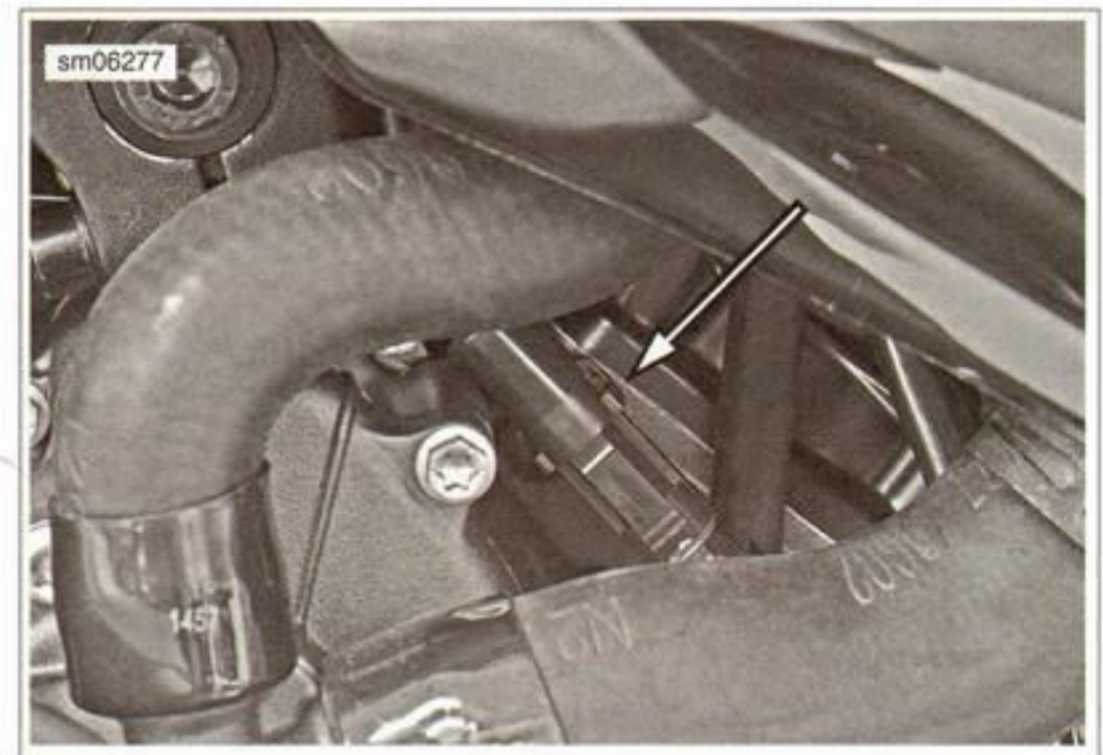

Figure 4-17. Rear O2 Sensor Connector [137]
1. See Figure 4-17. Lift the latch on the oxygen sensor connector [137] and separate the housings.